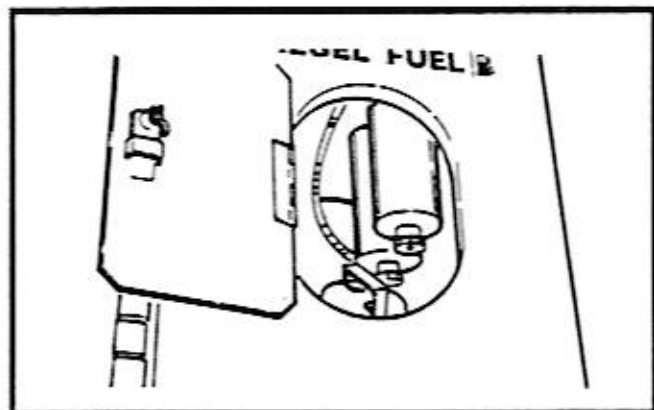

Figure 8-10. Fuel Filters
There are two fuel filters located on the machine. Gain access by opening the fuel tank filler cap door. Open the drain cock on each of the filters and drain off approximately one (1) cup of fuel and any collected water and sediment. Close the drain cock tightly when done. Refer to Figure 8-10.